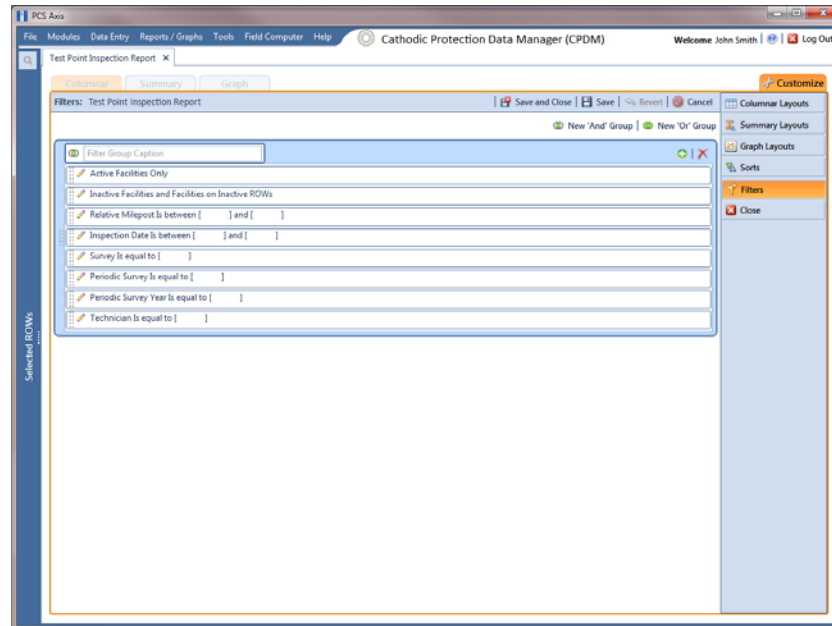

Figure 14-40. Filters
- 3 Click the **Customize** tab  then the **Filters** button  to open the *Filters* page (Figure 14-40).